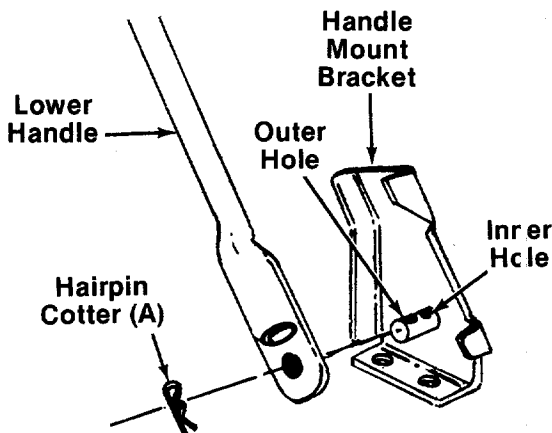

FIGURE 2.
- C (2) Lock Washers 5/16" I.D.
- D (2) Hex Nuts 5/16-18 Thread
- E (2) Cable Ties
- F (4) Shoulder Bolts*
- G (4) Belleville Washers 3/8" I.D. x 7/8" O.D.*
- H (4) Belleville Washers 3/8" I.D. x 1-1/8" O.D.*
- I (4) Hex Nuts 3/8-16 Thread*
3. Place lower handle in position over weld pins in handle mount brackets on deck. Make certain the instruction label on the lower handle can be read from the operating position. Secure by placing two hairpin cotter (A) in inner hole on weld pins. See figure 2.